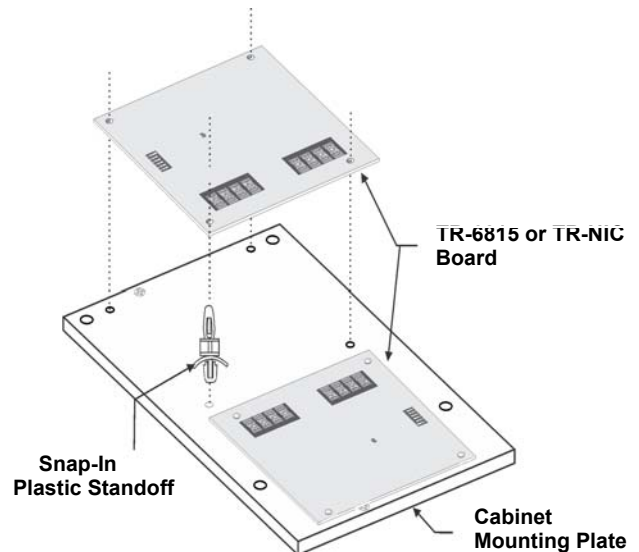

Figure 3 Standoff Installation
7. Insert the eight standoffs included with the cabinet as shown in Figure 3.